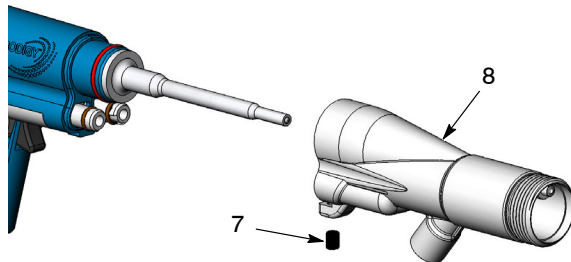

Figure 6 Installing the Resistor Holder
8. See Figure 6. Install the new adapter (8) on the gun, and secure it with the set screw (7).